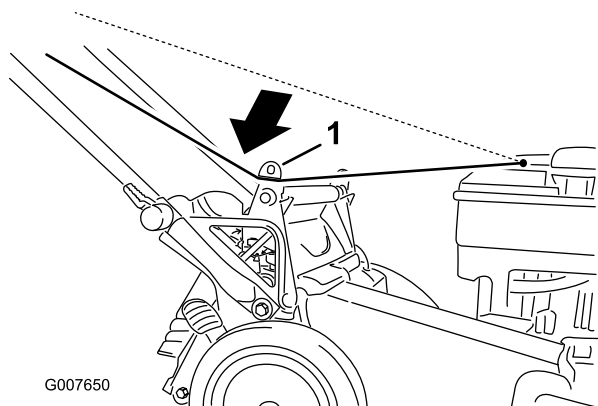

Figure 19
1. Route the starter rope around the lower-rope guide (Figure 19).